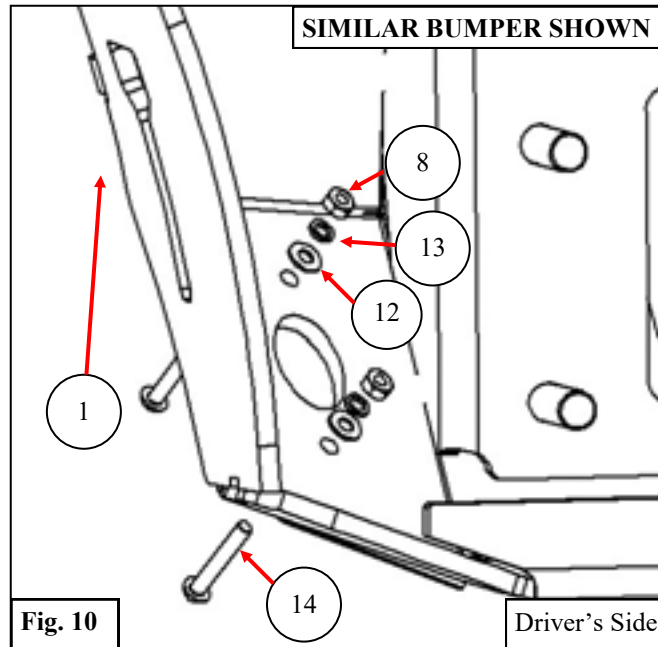

Fig. 10
- Install lights in the lower corners of the bumper using supplied M4 hardware (Items 8, 12-14). See **Figure 10**.